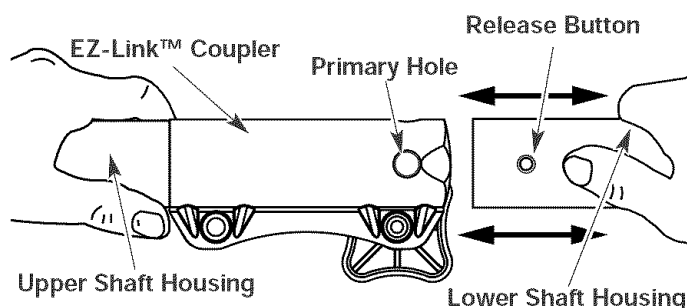

Fig. 10
3. While firmly holding the upper shaft housing, pull the cutting attachment or add-on straight out of the EZ-Link™ coupler (Fig. 10).
2. While firmly holding the add-on, push it straight into the EZ-Link™ coupler (Fig. 10).
CAUTION: Lock the release button in the primary hole (Fig. 10) and securely tighten the knob before operating this unit.